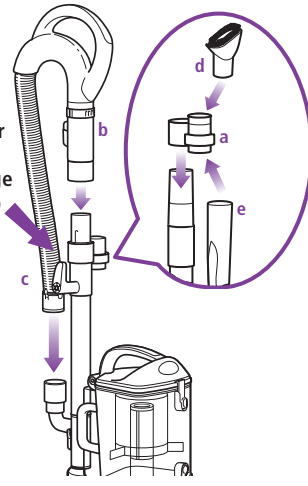

Fig. 11
- 4 Slide the accessory holder (a) positioned opposite the upper cord wrap, over the extension wand. Align the tab with the groove and push down. (Fig. 11)
- 5 Push the handle (b) onto the top of the extension wand until you hear it click into place. (Fig. 11)
- 6 Insert the end of the stretch hose (c) into the connector on the back of the detachable canister. (Fig. 11)
- 7 Store the dusting brush (d) and the crevice tool (e) on the mounts of the accessory holder. (Fig. 11)